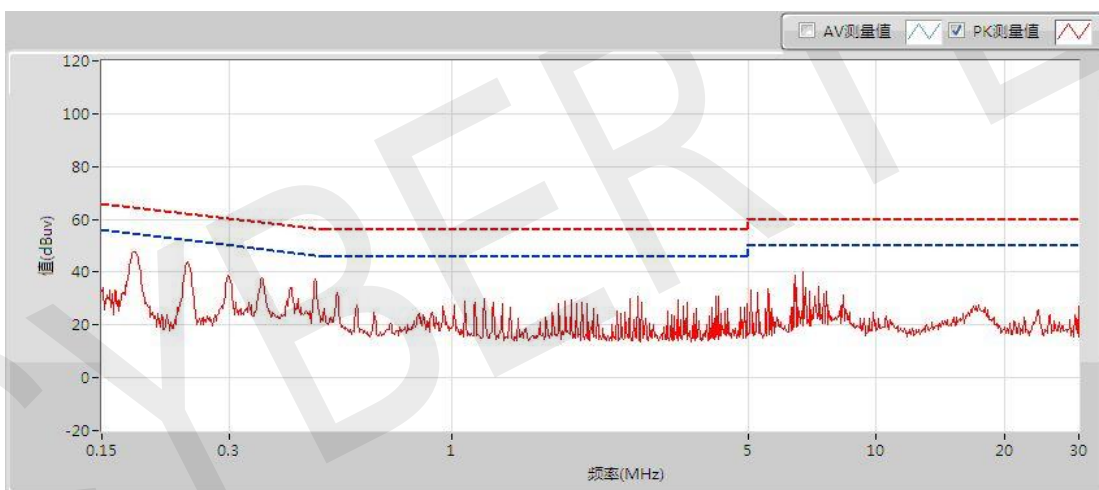

Figure 11 Conduction curve for Reduced CX1 of 0.1U, lower frequency range gets worse
- ✧ Reducing CX1 capacitor to 0.1U based on original filter circuit (Refer to Figure 11, 12 and 13):